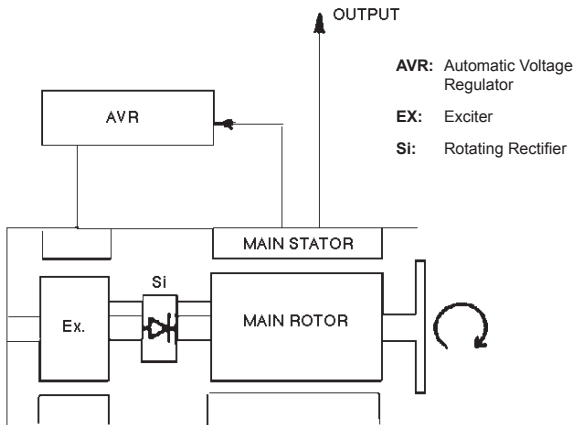

Figure 2: PX-300K Block Diagram
The excitation system of the PX-300K Series generator uses an Automatic Voltage Regulator (AVR) which uses a portion of the output power to supply controlled DC power to the exciter field (EX) as show in Figure 2. When DC power is supplied to the exciter field, output from the exciter armature is rectified by a 3-phase bridge rotary rectifier (Si) and supplied to the main field coils. See Figure 2.